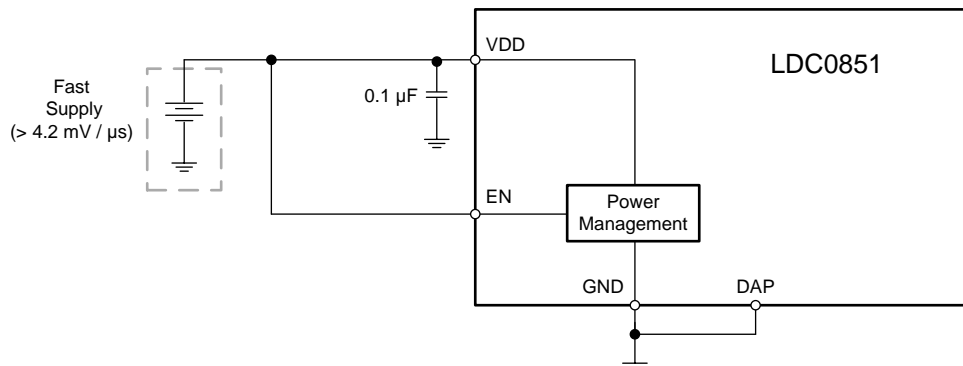

图 32. Supply Connections for Fast Ramp Rate
A 0.1 μF capacitor should be used to bypass VDD. If multiple bypass capacitors are used in the system, then the smallest value capacitor should be placed as close as possible to the VDD pin. A ground plane is recommended to connect both the ground and the Die Attach Pad (DAP). If the supply ramp rate must be faster than 4.2 mV/ μs the enable pin (EN) may be tied directly to VDD as shown in Figure 32.